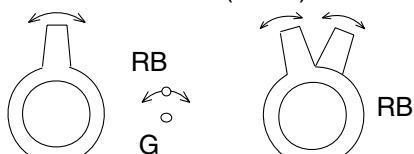

**Fig. 9**
5. Loosen the screw on the Deflection Yoke Clamper and pull the Deflection Yoke back away from the screen. (See Fig. 9.)